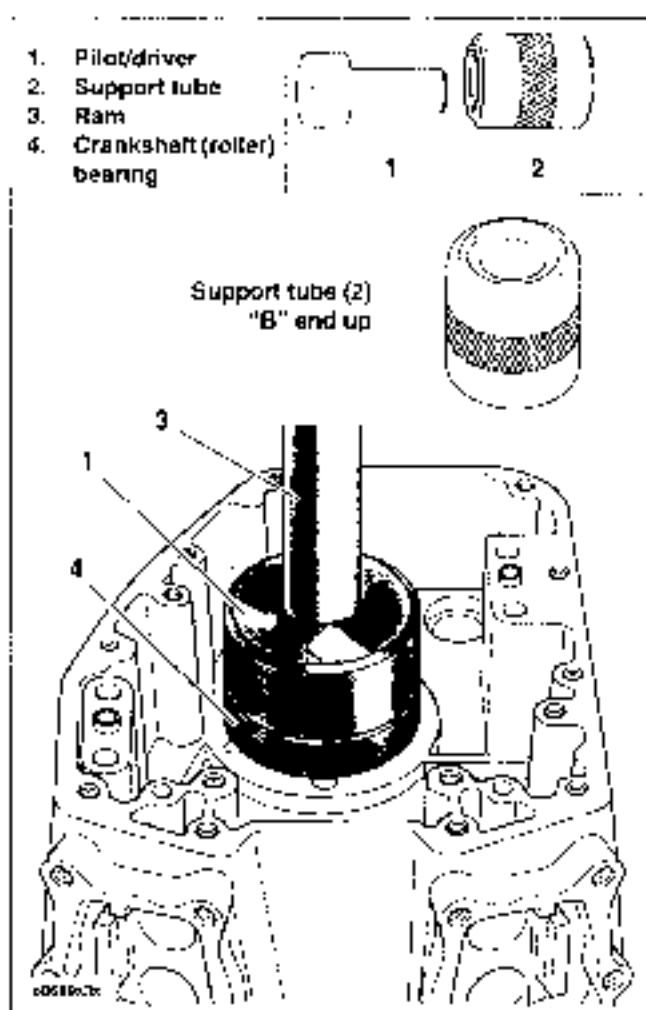

Figure 3-155. Crankshaft (Roller) Bearing Installation
- See Figure 3-155. Obtain CRANKSHAFT (ROLLER) BEARING REMOVAL/INSTALL PILOT/DRIVER (Part No. B-45655) and CRANKSHAFT (ROLLER) BEARING REMOVAL/INSTALL SUPPORT TUBE (Part No. HD-42720-5).
- Obtain new crankshaft (roller) bearing (4). Spread a thin film of clean engine oil on O.D. of new bearing.
- Turn support tube (2) over so that the "B" end is up. The sides of the support tube are stamped "A" and "B" to ensure proper orientation.
- Slide pilot/driver (1) through bearing into support tube.
- Center pilot/driver under ram (3) of press. Apply pressure to pilot/driver until resistance is felt and bearing is bottomed on the support tube.